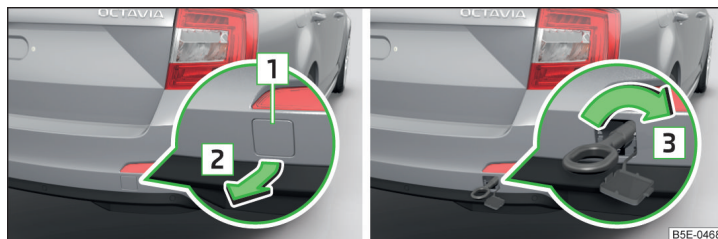
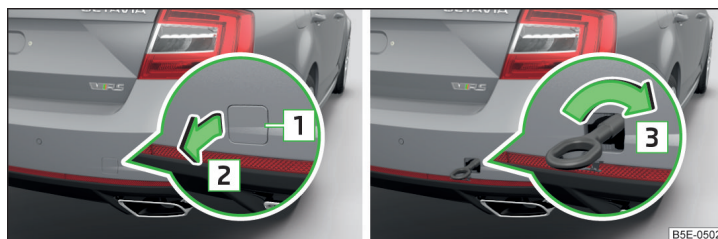

Fig. 204 Expansion of the cap / installation of towing eye - Version 1
Fig. 205 Expansion of the cap / installation of towing eye - Version 2
- Press on the cap in the area **1** » Fig. 204.
- Press on the cap in the area **1** » Fig. 205.
- Manually screw the towing eye in as far as it will go in the direction of the arrow **3** » Fig. 204 or » Fig. 205 to the stop » **!**